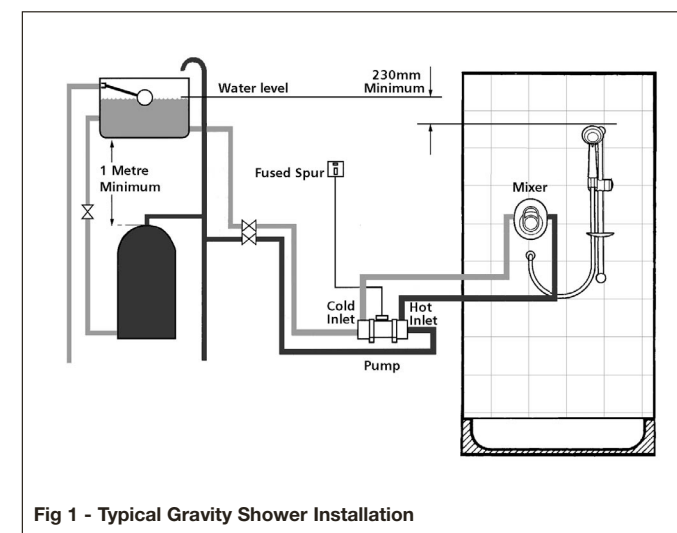

Fig 1 - Typical Gravity Shower Installation
EASIBOOST, TURBO & TURBO 2 (Fig 1)
2. Make your connection into the hot water supply pipe from the cylinder, ensuring that it is in the vertical pipe (below the expansion pipe tee). **A minimum of 1 metre below the base of the cold water storage tank and the top of the hot water cylinder must be achieved. (See Fig 1. for typical pump installation)**
4. **TWIN PUMPS:** The cold water supply should be taken directly from the cold storage tank, and must be positioned 60mm below the cold feed connection to the hot water cylinder. (See Fig 1. for a typical twin pump installation)